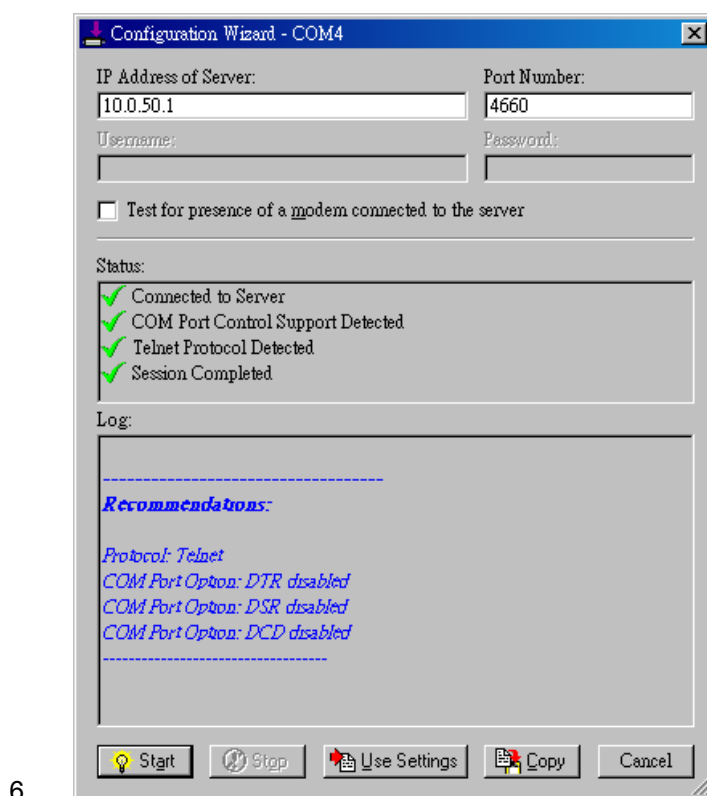

Figure 4.5 Configuration Wizard
One configure each Serial/IP COM port as follows: (Figure 4.5)
5. Click the **Configuration Wizard** button and then click the **Start** button that appears in the wizard window. This important step verifies that the Virtual COM Redirector can communicate with the serial server using the settings one has provided. If the **Log** display does not show errors, click the **Use Settings** button in the wizard, which makes the recommended settings effective and returns one to the Control Panel to continue with the following steps. (Figure 4.5)